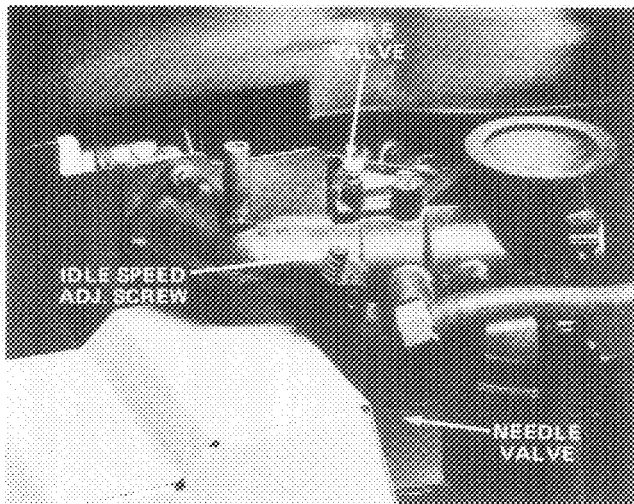

Figure 21
1. Needle Valve (Fig. 21) — Close valve by gently rotating it clockwise.
2. Rotate — open — the needle valve 2 turns counterclockwise (Fig. 21).
4. Rotate needle valve (Fig. 21) clockwise, 1/8 turn at a time, until engine starts to lose speed. Let engine react to each 1/8 turn setting.
5. Rotate needle valve (Fig. 21) counterclockwise — out — 1/8 turn at a time, until engine first runs rough. Let engine react to each 1/8 turn setting.
6. Rotate needle valve (Fig. 21) clockwise — in — very slowly until engine starts to run smoothly. This setting, under no load, may be slightly rich; however, the slightly rich setting will assure proper operation when engine is under load.